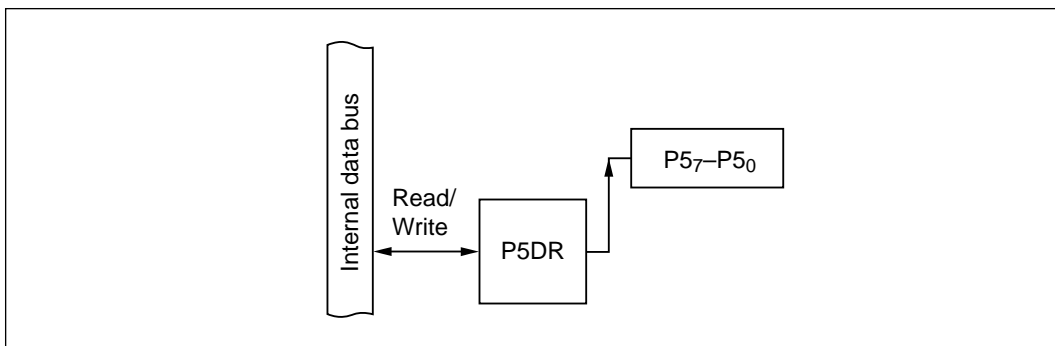

Figure 10-30 Output Port (Modes 1 to 7)
(2) Output Port (Modes 1 to 7): Figure 10-30 shows a block diagram illustrating the general-purpose output function. Table 10-23 indicates register read/write data. The value written in the port 5 data register (P5DR) is output at the pin. When read, P5DR returns the value written in P5DR.